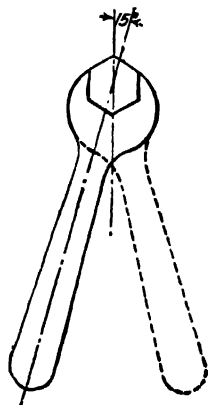

Fig. 4-9.
6. Oftentimes bolt heads or nuts are so placed in a machine that a movement of the wrench through 90 deg. (for a square nut) or through 60 deg. (for a hexagonal nut) is impossible owing to obstructions. This difficulty is overcome by using for the square nut a  $22\frac{1}{2}$ -deg. angle wrench and for a hexagonal nut a 15-deg. angle wrench. By turning the wrench over each time it is applied the nut may be turned completely around when the swing of the handle is limited to substantially half that required for a straight wrench. This is illustrated in Fig. 4-9.